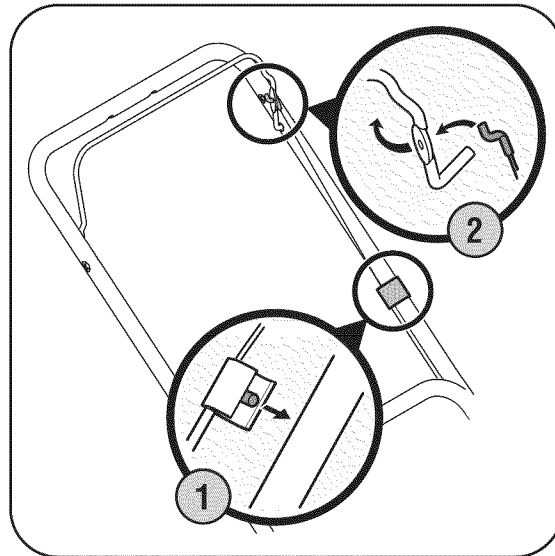

Figure 3-6: Attach the blade control cable.
1. Route the cable under the lower handle. Press the snap fitting into the hole on the upper handle as shown in Figure 3-6.
2. Hook the "Z" end of the blade control cable into the blade control handle from the outside to the inside, Figure 3-6.